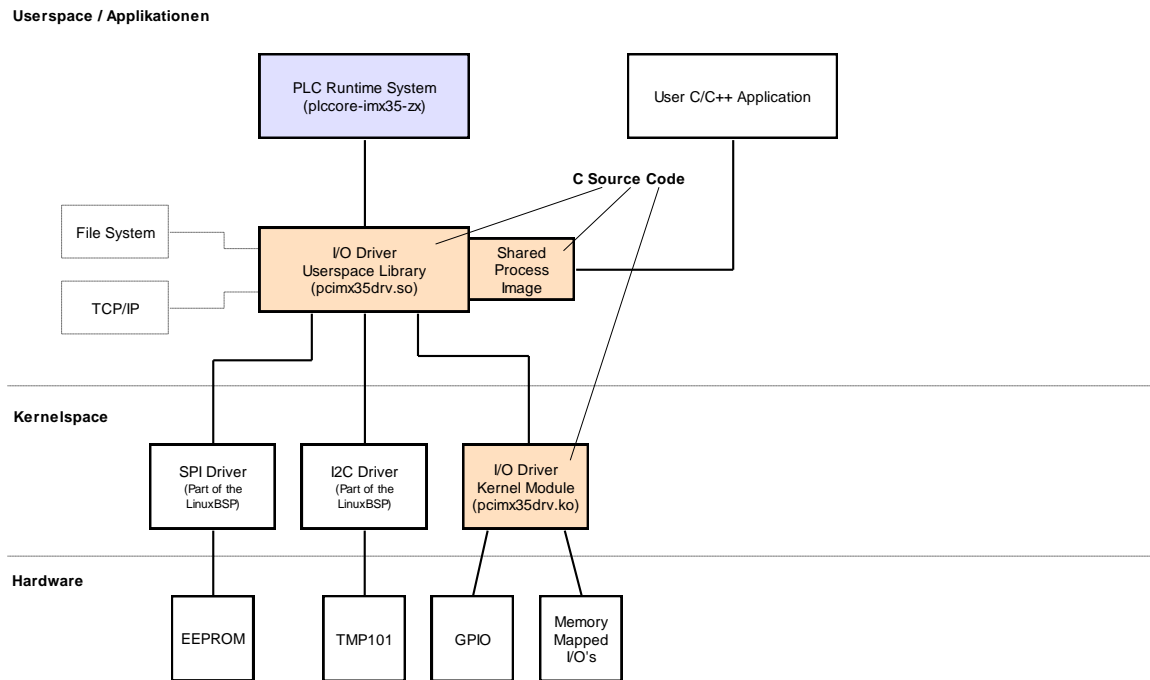

Figure 34: Overview of the Driver Development Kit for the PLCcore-iMX35
Figure 34 provides an overview of the DDK structure and its components. The DDK contains amongst others the source code of the Linux kernel driver (*pcimx35drv.ko*) and the Linux user library (*pcimx35drv.so*).
1. Source code for the Linux kernel driver (*pcimx35drv.ko*, see Figure 34); includes all files necessary to regenerate kernel drivers (C and H files, Make file etc.)
2. Source code for the Linux user library (*pcimx35drv.so*, see Figure 34); contains all files (incl. implementation of Shared Process Image) necessary to regenerate a user library (C and H files, Make file etc.)